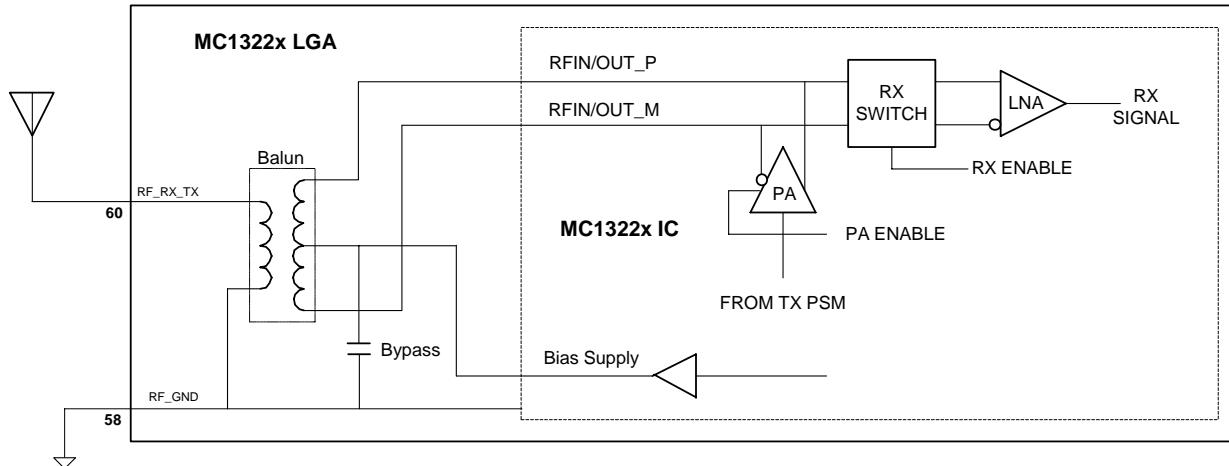

Figure 3-13. MC1322x Standard Single-Ended RF Connection
The MC1322x radio interface provides for lowest cost and highest integration as shown in Figure 3-13. The PiP concept in the LGA package contains components interconnected with the IC to provide the integrated RF network.
As shown in Figure 3-13, there is an integrated internal RX switch and separate differential PA on the IC. The IC signals RFIN/OUT_P and RFIN/OUT_M are bidirectional and are connected for both for TX and RX. When receiving, the RX switch is enabled to the internal LNA and the PA is disabled. When transmitting, the RX switch is disabled (isolating the LNA) and PA is enabled. The bias supply provides the reference voltage to the balun that converts a single-ended antenna to the differential interface required by the device.
- RF_RX_TX - as shown in Figure 3-13, this RF port has an in package balun that converts the single-ended external signal to a differential port at the device silicon. This differential port has an on-silicon LNA and a primary complementary PA that is automatically controlled for receive or transmit. This RF_RX_TX port can be used for RX, TX, or both. It is the only RX input however.